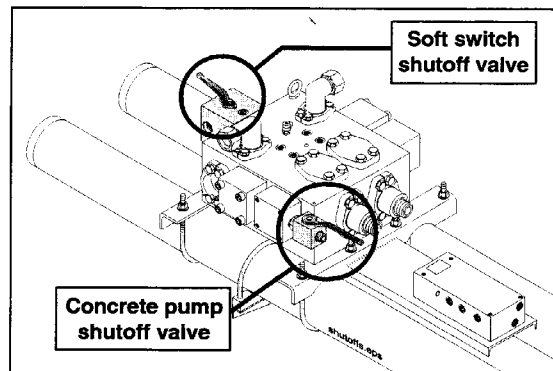

Figure 4
5. To pressure test the modification, we must high-pressure the unit. Close the soft switch shutoff valve, and the concrete pump shutoff valve, identified in figure 4.